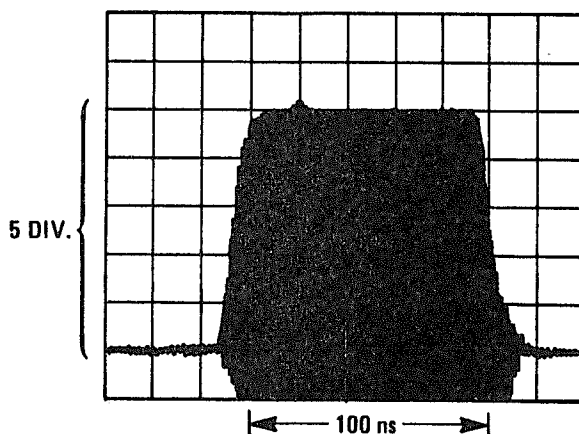

Figure 4-13. Risetime, Falltime, Overshoot and Ringing Measurement
7. Adjust the sweep delay on the oscilloscope to center the modulated 70 MHz RF pulse. Adjust the vertical controls for a 5 division peak pulse display. See Figure 4-13.